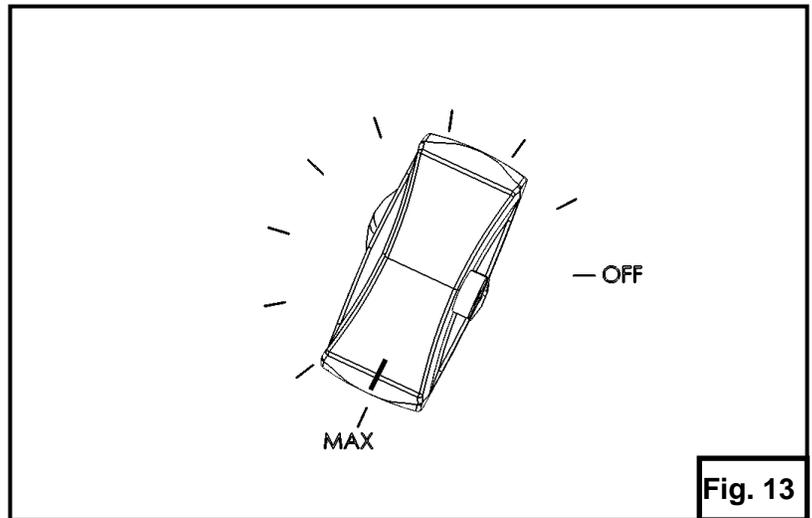

Fig. 13
6. To light the burners, turn the individual burners valves ON (MAX setting) after all pilots are lit. (Fig. 13). If the burners fail to light, turn all burner valves and the main gas shut-off valve to the OFF position and contact an authorized service agency.